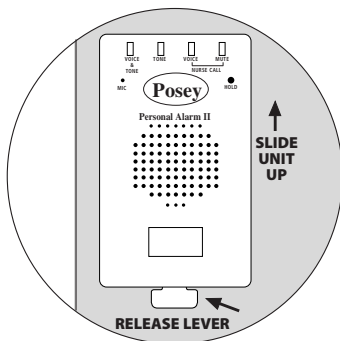

Fig. 27 - Alarm/Bracket (Front View)
5. To remove the alarm unit from the bracket, gently push in on the release lever while sliding the alarm up (see Fig. 27).